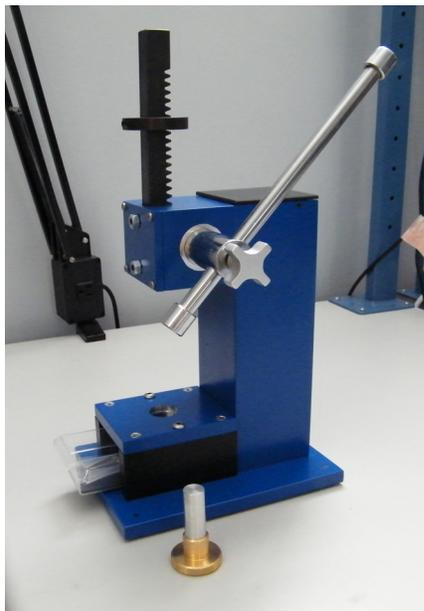

Figure 1: Cell Component press with plunger and foam lined drawer
To setup the AUC Cell Component Press, locate a place on your bench. The cell component press can be used without being screwed down, however, in some cases you may want to apply strong pressure on components that are hard to remove. In these cases, it may be preferable to use the (4) screws provided to secure the component press to the bench. Insert the foam lined drawer into the front of the press between the two black plastic legs (see Figure 1).